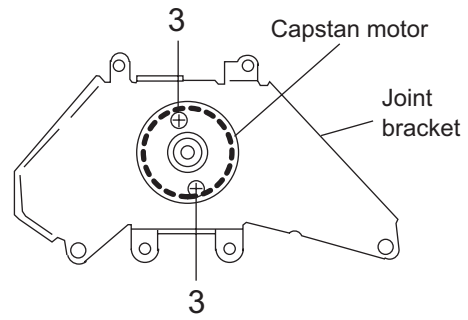

Fig.11
**(See Fig. 11)**
- (1) Remove the two screws **3** from the capstan motor, and then remove the joint bracket.